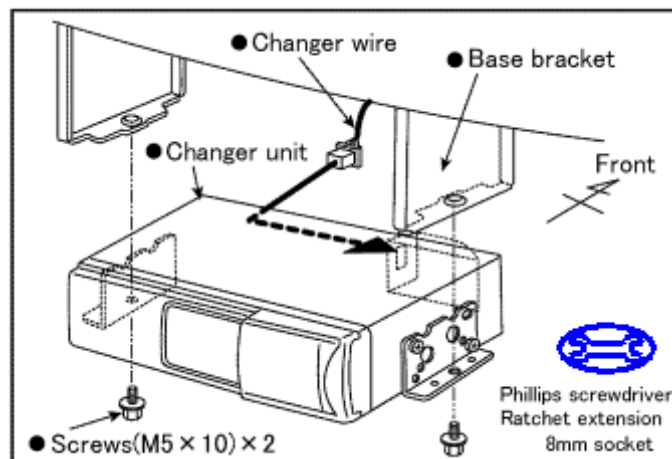

Figure T1
1. Connect the 12-pin changer wire connector to CD changer. (Figure T1)
2. Use 8 mm socket to attach changer unit to base bracket. (Figure T1)